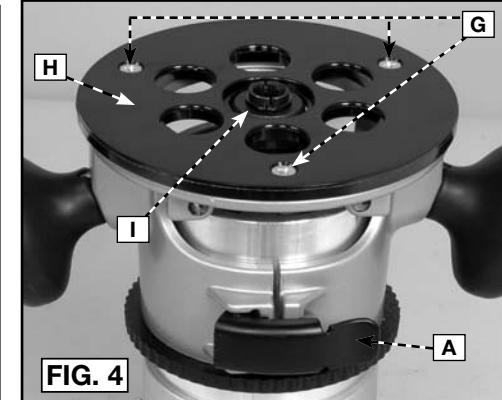
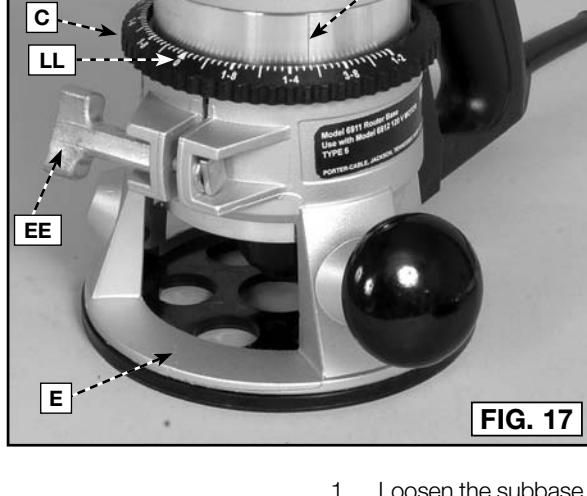

FIG. 4
FIG. 17
1. Loosen the subbase mounting screws (G) Fig. 4 just enough to allow the subbase (H) to move.
2. Open the clamp (A) Fig. 4 (or screw (EE) Fig. 17) and adjust the power unit so that the collet nut (I) Fig. 4 engages the center hole in the subbase (H). Allow the subbase to center itself on the collet nut. Close the clamp or tighten the clamp screw firmly.
3. Tighten the subbase mounting screws (G) Fig. 4 securely.
- Loosen the clamp screw (EE) Fig. 17.
- Hold the base (E) and turn the motor unit (F) Fig. 17 counter-clockwise until the tip of the bit is above the bottom of the base.
- Turn the motor unit (F) Fig. 17 clockwise until bit touches the wood surface.
- Tighten the clamp screw (EE) Fig. 17.
- Rotate the depth adjusting ring (C) Fig. 17 until the zero-line (LL) is opposite the index line (D) on the housing.
- Tip the router so that the bit is clear of the wood surface. Turn the motor unit (F) Fig. 17 clockwise until the index line (D) on the motor housing reaches the desired depth indicated on the ring.
- Tighten the clamp screw (EE) Fig. 17 firmly.